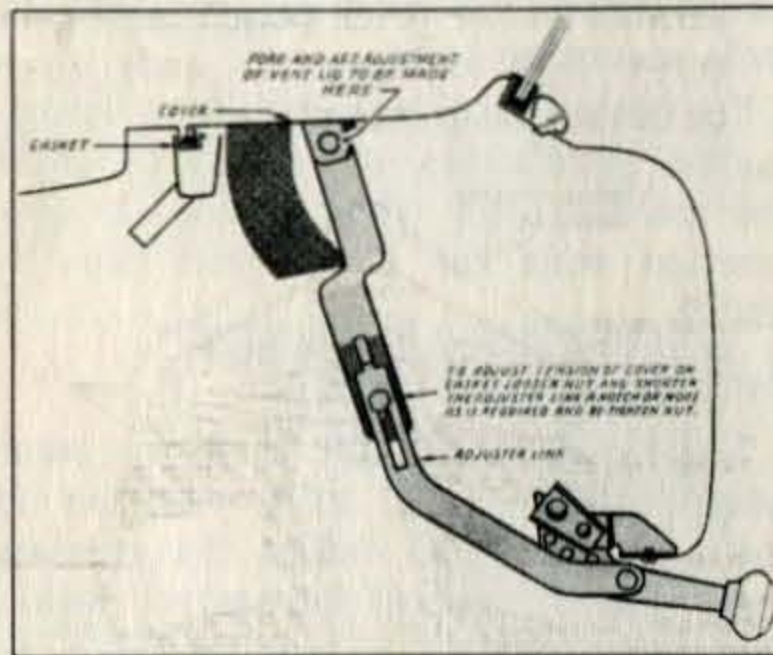

Fig. 6. Shroud Ventilator Adjustment
For fore and aft adjustment, loosen two lid bracket attaching bolts at both ends of lid. Bolt holes in bracket are elongated. (See Fig. 6.)
1. Determine if shroud ventilator cover is making positive contact with the ventilator rubber gasket. (See Fig. 6.)